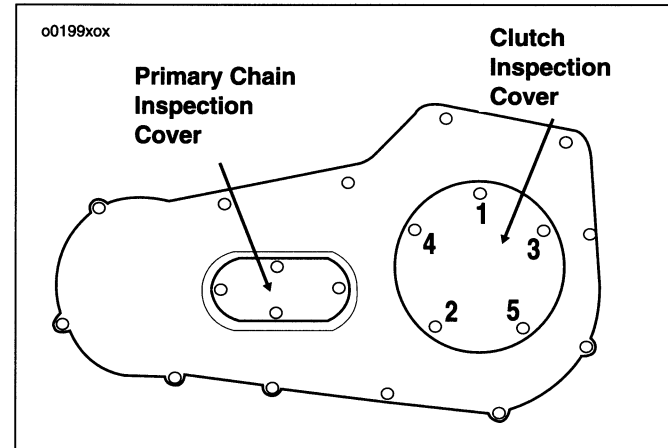

Figure 35. Primary Chaincase Cover
3. See Figure 35. On the left side of the vehicle, remove the four T27 TORX® screws with flat washers to free the primary chain inspection cover from the primary chaincase cover
1. See Figure 35. Using a T40 TORX® drive head, remove magnetic drain plug at bottom of primary chaincase cover. Drain lubricant into suitable container.